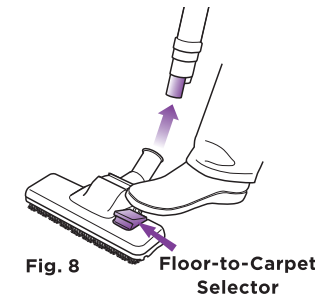

Fig. 8
- 1 Push the bare floor nozzle onto the end of the telescopic tube until it is firmly in place. (Fig. 8)
- 3 Push the floor-to-carpet selector forward to use on bare floors. Push it back to use on carpets and rugs. (Fig. 8)